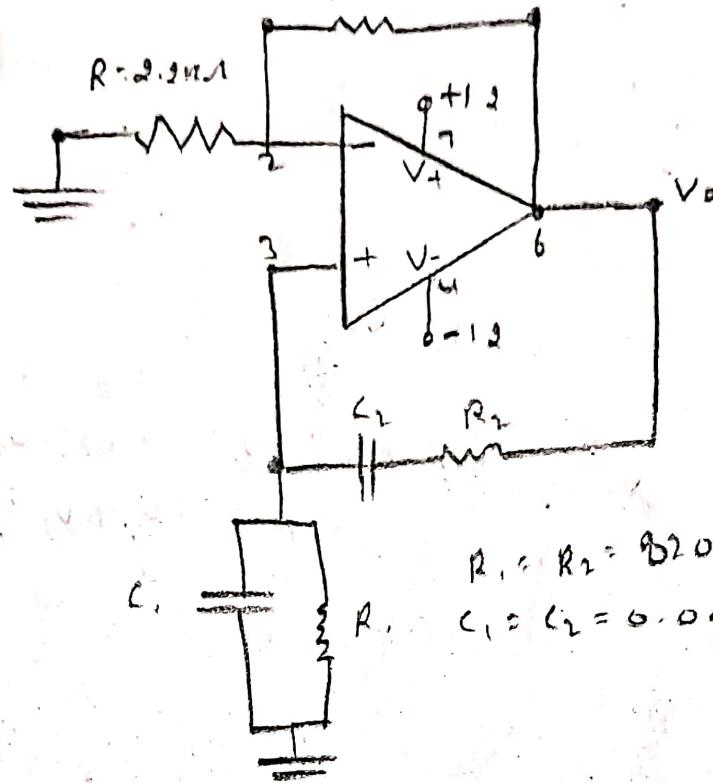

Fig. 2: Wien's Bridge Oscillator
- 2- Fig. 2 shows a phase shift oscillator. Connect the circuit and make sure the power supply ( $\pm 12\text{V}$ ) ground is connected to circuit ground and.
- 1- Assemble the circuit as shown in Fig. 2. Make sure the power supply ( $\pm 12V$ ) ground is connected to circuit - to - circuit ground.